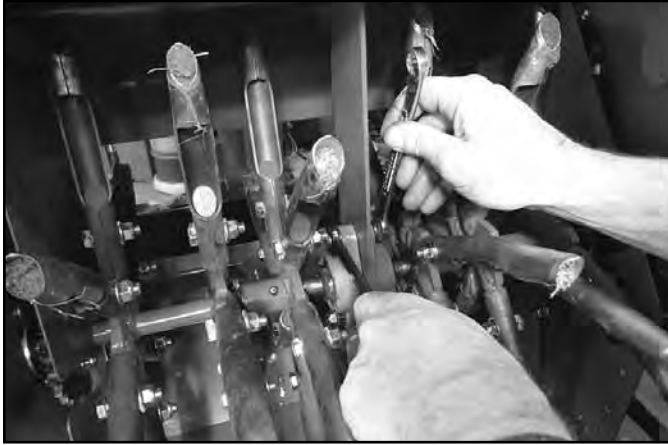

Fig. 156
5. Tighten the flange bearing bolts. Torque to 30 ft-lbs. (40 Nm) (Fig. 156).